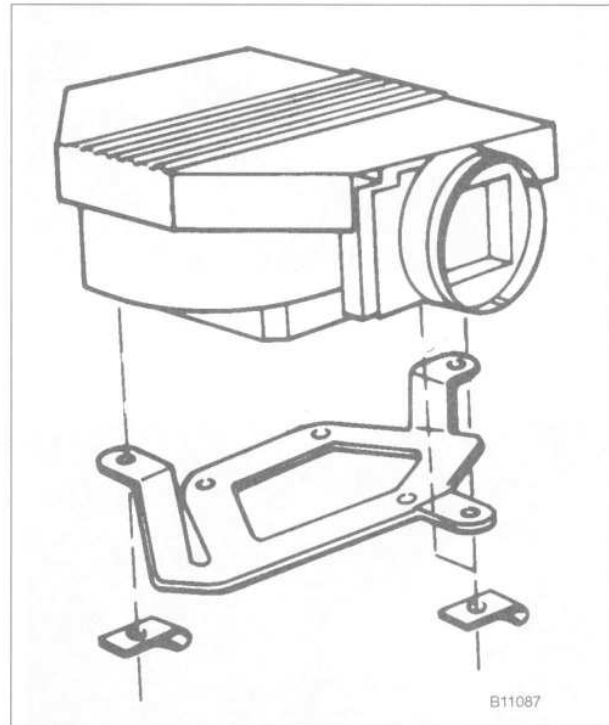

Fig. 35. Air flow sensor mounting clips (arrows).
10. Remove the air flow sensor by disconnecting the harness connector and removing the retaining clips from the underside of the air flow sensor. See Fig. 35.